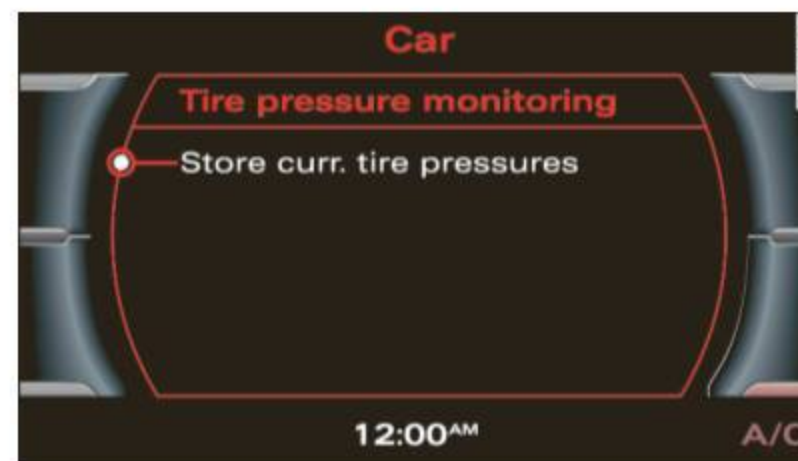

Fig. 29 Tire pressure monitoring system
- Select **Store curr. tire pressures** ⇒ *page 42, fig. 29*.
All pressure warning indicators in the display will be canceled. The system malfunction error message will not disappear until the vehicle is underway. With pressing the button ⇒ *page 42, fig. 29*, the re-programming of the new sensors and storing of actual pressures starts. This learning phase can take up to 10 minutes driving time.